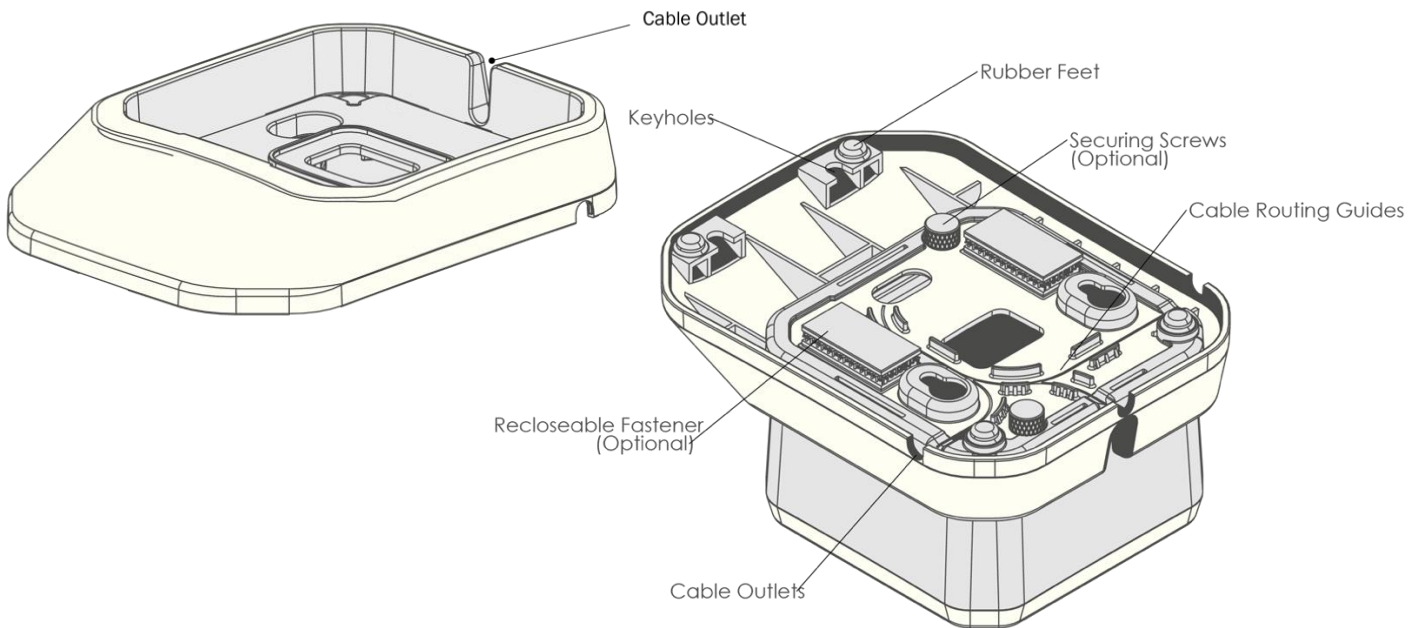
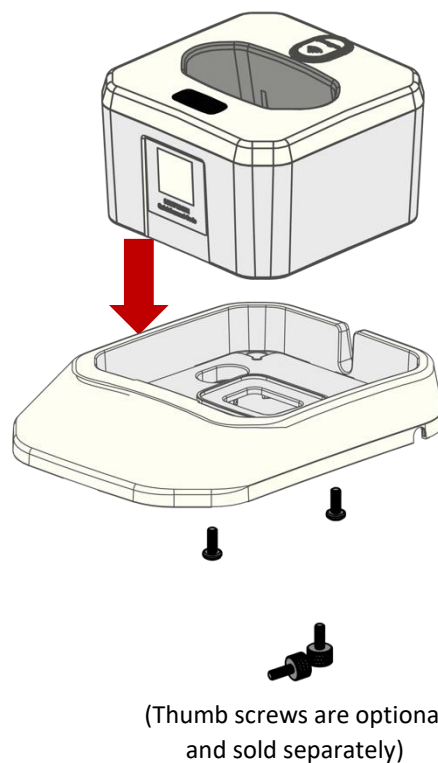
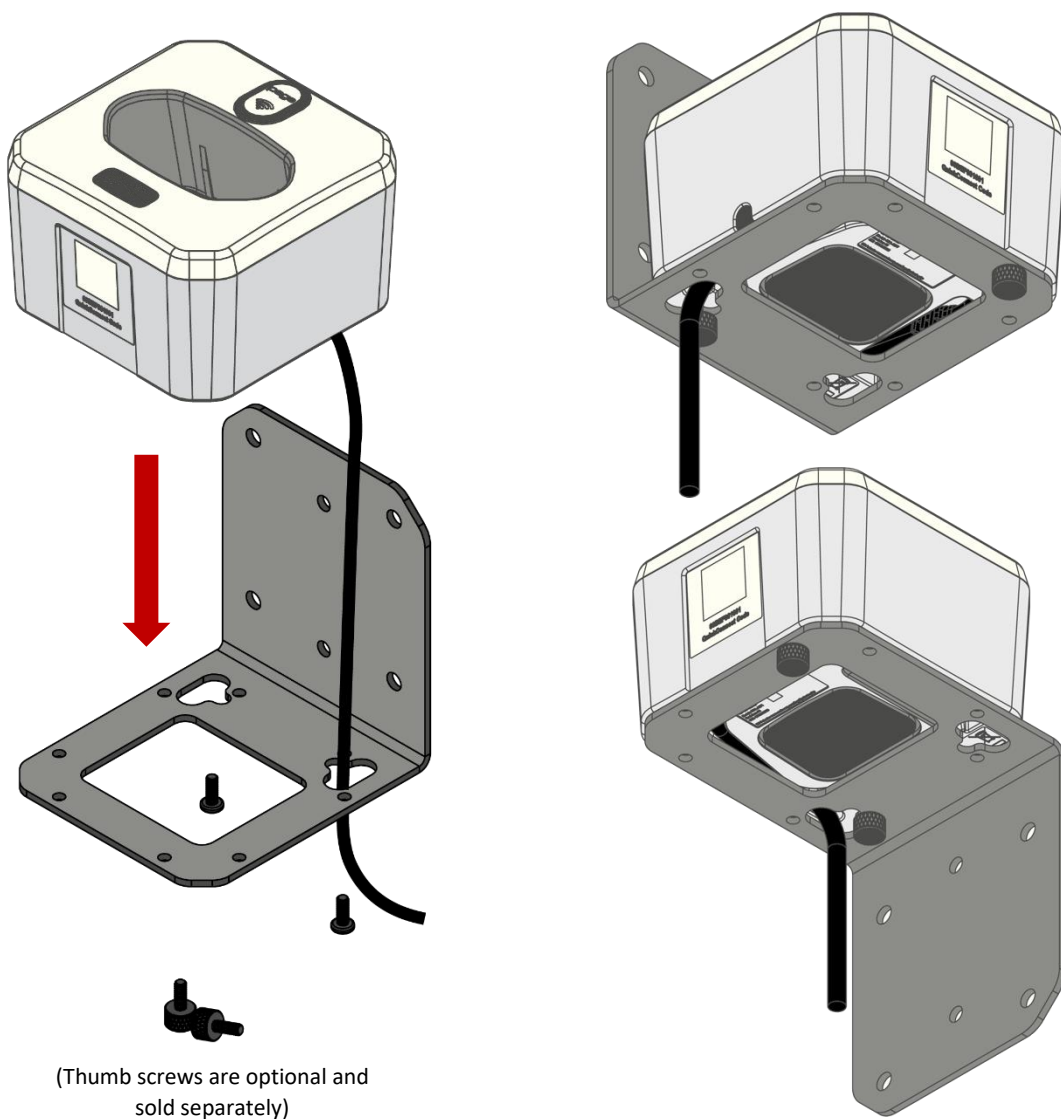

Figure 4 CRA-MB6 Desktop Base Features
Figure 8 Install and Secure Desktop Base CRA-MB6
Figure 9 Install Charging Station with Wall Mount Bracket CRA-WMB4
- 5.7.2. Run the cable along the cable routing guides on the bottom of the charging station. If the charging station will be placed into a desktop base (CRA-MB6), the cable should exit through the opening in the back of the charging station (see Figure 8). If the charging station will be mounted on a wall mount bracket (CRA-WMB4) or a VESA mount bracket (CRA-MB7), thread the cable through one of the two cable exit holes on the bracket (see Figure 9 or 10)
The Desktop Mount provides extra charger stability when the charger is free standing on a counter or desk. Place the charging station into a desktop base (CRA-MB6) (Figure 8). The charging station can be secured onto the base using two pan head screws supplied with the desktop base. The desktop base can be fastened onto a flat surface using included multi-use adhesive tape, if desired (see Figure 4 for locations to attach the tape). Additional adhesive tape (CRA-CR27-02 or CRA-CR27-10) is available as an accessory.
The charging station can be mounted onto a wall using the wall mount bracket (CRA-WMB4). Mount the bracket to a wall using four #10 (M4 or M5) size screws (not provided). The wall mount bracket can be mounted in upward or downward position depending on application (Figure 9). There are three positions that the charging station can be affixed onto the bracket. Choose a position suitable for your workflow, thread the USB cable through one of the two cable exit holes on the bracket and attach the charging station onto the bracket using two screws supplied with the wall mount bracket. Optional thumb screws (CRA-CR27-01) are available to mount the charging station without using a screwdriver.